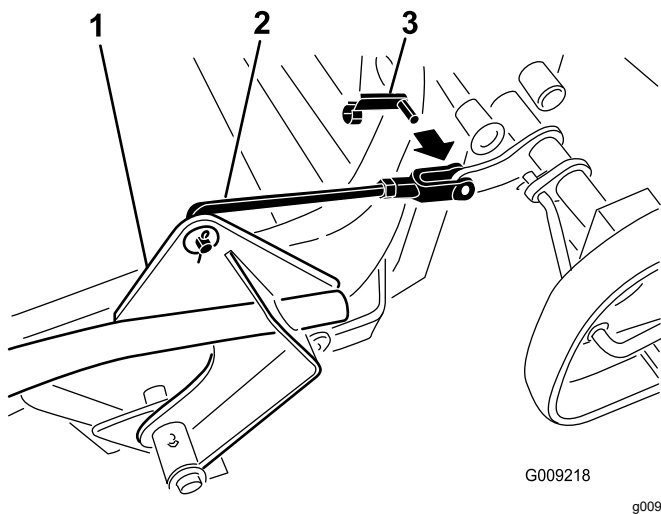

Figure 10
1. Remove the clevis-pin spring from the bagger-arm assembly (see Figure 10).
6. Rotate the bagger-handle linkage up to the bagger assembly and secure it with a clevis-pin spring (Figure 10).